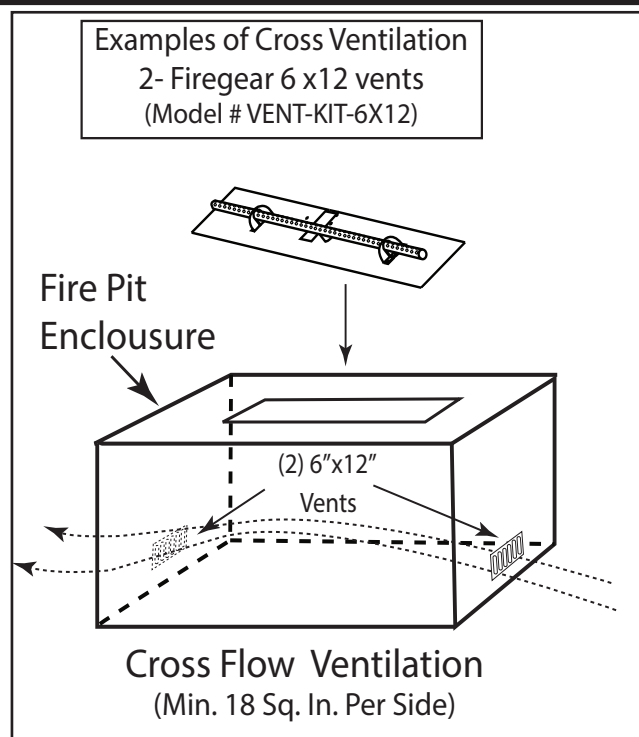

Fig. 4 Cross ventilation example
Fire pits are subjected to many outdoor elements such as rain, snow, wind, heat or cold. **A minimum of 18 square inches (two opposite sides) of cross ventilation is required to keep the components in good working order.** Use Fig. 4 as guide to assist to incorporate proper ventilation.
6. **CAUTION: A minimum of 18 square inches of cross ventilation (opposite side) is required to keep the enclosure dry. See Fig. 4.**
Locate the burner nipple underneath the burner pan. Ensure the nipple from on the spur burner has gas rated Teflon tape wrapped around the threads. Thread the OAS (orifice air shutter) on to the nipple of the burner clockwise manner. Secure into position. See Fig. 4.